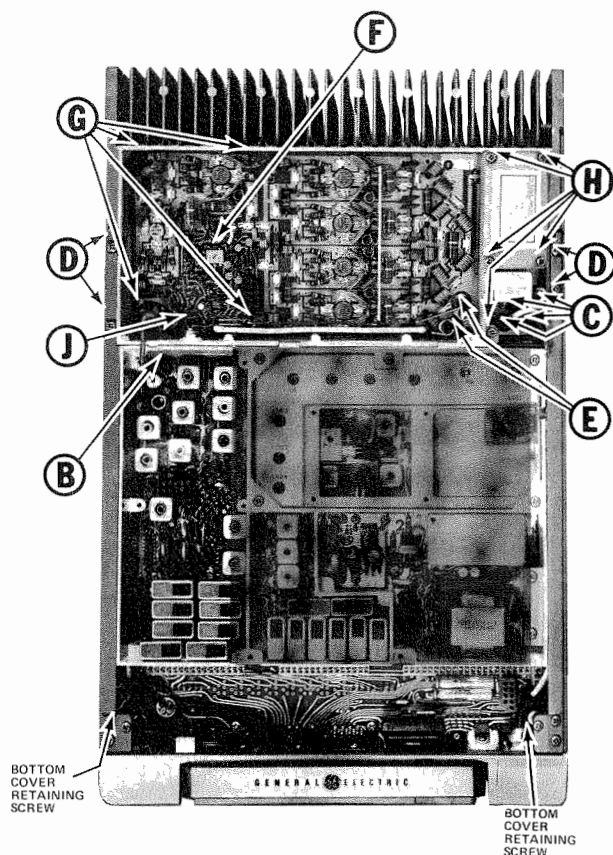

Figure 5 - Disassembly Procedure-Top View
2. Remove the top cover, then loosen the two bottom cover retaining screws and remove the bottom cover (see Figure 5).
3. To gain access to the bottom of the exciter board, remove the six screws (A) holding the exciter board and its bottom cover to the module mounting frame, and remove the bottom cover.